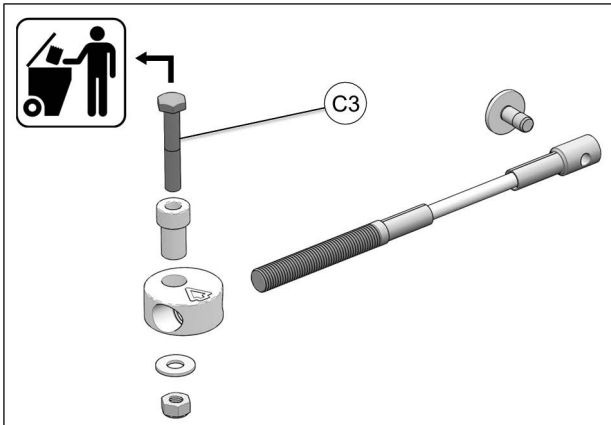

Fig. 25
11. Remove and discard M10 bolt (C3) from steering limiter cable parts kit as shown in Fig. 25